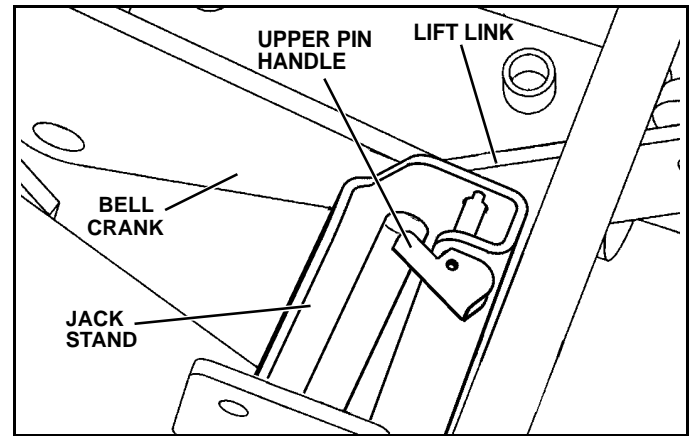

Figure 1-31
7. Disengage lower jack stand pin by pulling on upper pin handle. (See Figure 1-31).